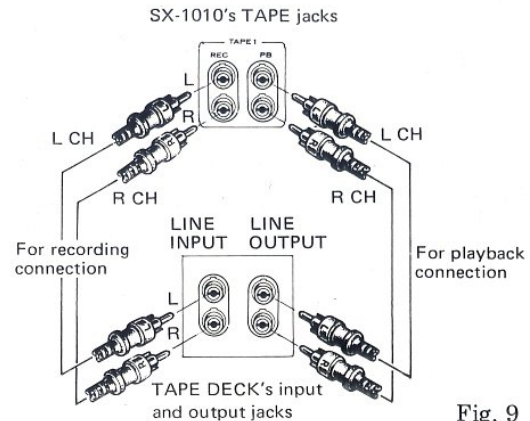

Fig. 9
Use the connecting cord(s) provided with the tape deck(s) to make the connections (see Fig. 9).
- The receiver output TAPE 1 REC jacks are connected to the recording input jacks (LINE INPUT) of the tape deck as shown in Fig. 9. The upper jacks of each pair are the L (left) channels and the lower are the R (right) channels. When the tape deck is provided with a DIN-type connector for recording and playback, use the optional recording/playback cord (e.g. Pioneer model PP-101) to make the connection with the TAPE 2 REC/PB DIN connector.